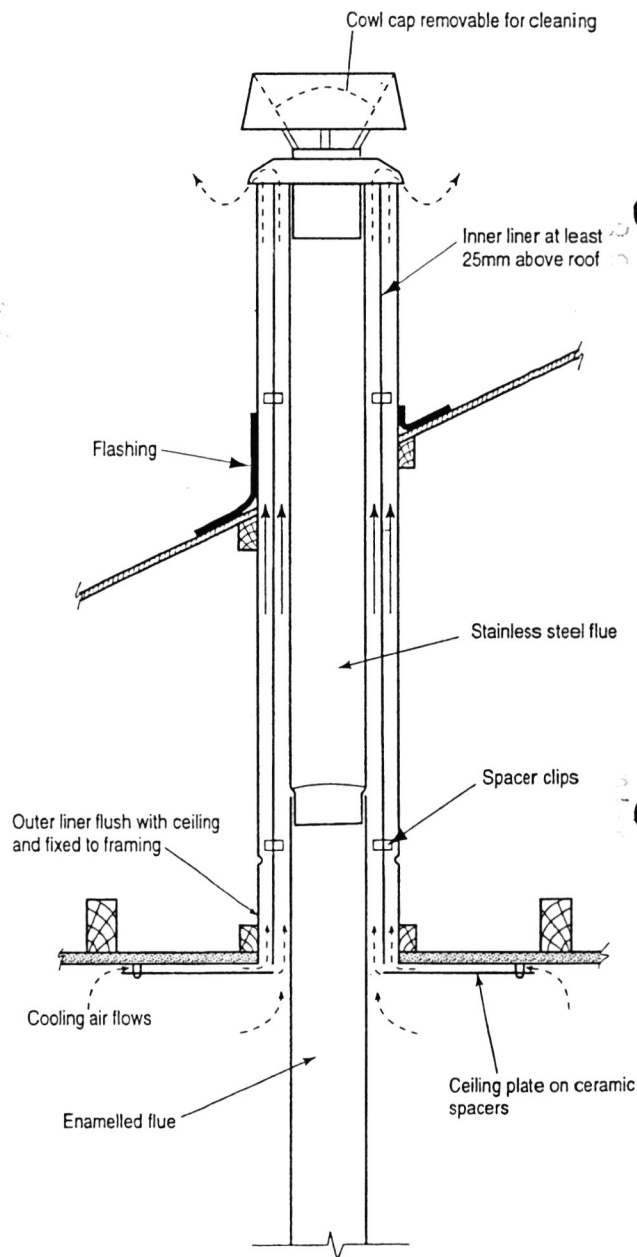

Fig 2
2. The flue kit is designed so that the 250mm outer liner may be fixed directly to timber framing within the roof structure. It must be installed plain end upwards with the slip liner at the top, and so that the lower end is flush with the underside of the ceiling. See Fig 2. Frame the square opening in ceiling and roof with 50x50mm timber and fasten the lower edge of the liner and the point at which it passes through the roof to the frames at 90° spacings. If it should be necessary to use more than one length of outer liner, the piece with the slip extension must always be the top one.
7. Install the 200mm liner with the swaged end uppermost, over the flue and into the 250mm liner. When installed correctly, the bottom set of clips will rest on the ring swaged in the 250mm liner as shown in Fig 2. When more than one length of shielded flue is needed, as in the case of multi-storey dwellings, the liners must be installed section by section. It is not possible to join all the lengths of 200mm liner and slide them down into several joined lengths of 250mm liner, as the spacer clips will not pass the swaged rings in the 250mm liners. **Note:** It is essential that the 200mm liner extend at least 25mm above the roof penetration at the highest point of the penetration. If necessary, extra lengths of 200mm liner may be purchased from your **KENT** dealer.